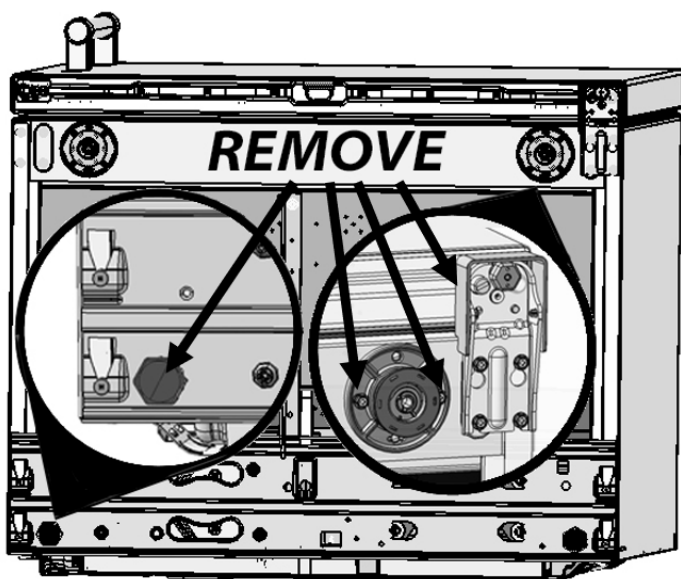

Figure 1
b. Remove **all four** rear leg levelers by unscrewing counterclockwise (Figure 1, left detail).
c. Remove **all four** front leg levelers by unscrewing the outer peg and two bolts on each front leveler with a 5/16" nut driver. Remove the hinge cover if installed (Figure 1, right detail).